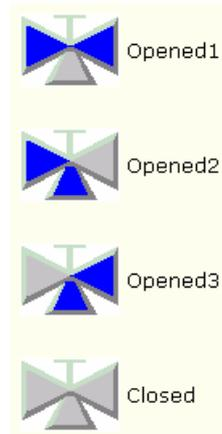

Figure 122. Icon indications for Valve3Way
5. Add the graphic library **PLC Subelements** to the toolbox. Select the PLC Subelements tab, and then create a **Valve3Way** element. See Figure 122.
Valve3Way is a process object icon used to represent a 3-way valve. The icon can indicate whether the valve is open or closed, and also in what way it is opened. See Figure 122.